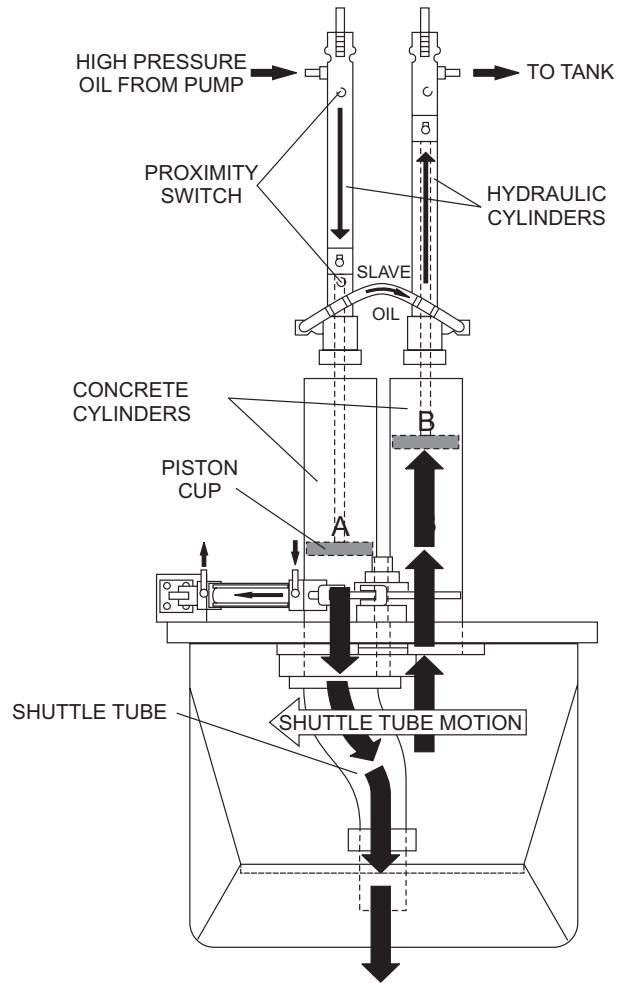

Figure 5. Pumping Cycle 2
The shuttle tube is sequenced to pivot to each concrete cylinder as the drive cylinders stroke to push concrete. As the second cycling sequence begins (Figure 5), the shuttle tube pivots to the opposite cylinder (A). The hydraulic piston passes under the proximity switch and sends pressure to the piston, causing it to stroke and discharge concrete into the delivery line. Hydraulic oil is transferred through the slave circuit to cylinder B, causing it to start a suction stroke, refilling it with concrete. The pumping sequence then repeats for the duration of the operation.